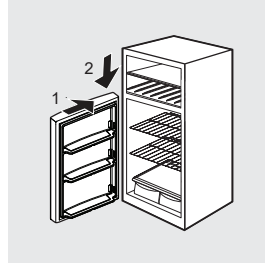

Figure 9
9. Lower the refrigerator door in the opened position on the bottom hinge pin and close the door (see Figure 9).